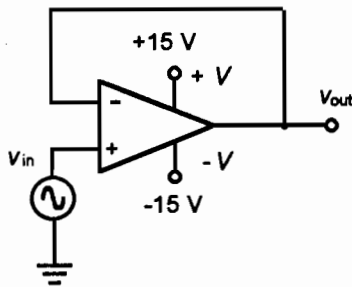

Figure 44.1
1. Connect the circuit shown in Figure 44.1. The op-amp is configured as a unity-gain, noninverting voltage follower. Connect the oscilloscope as shown, and set the controls to the following positions: